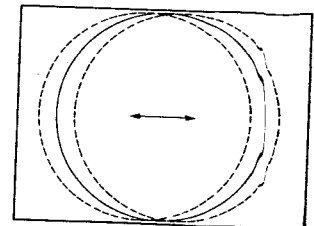

fig. 2
- Adjust the horizontal location to obtain picture centering (fig. 2).